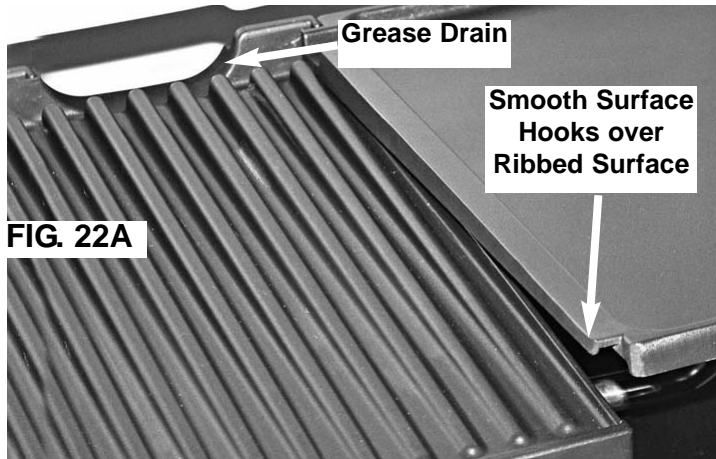

FIG. 22A
1) Place the Ribbed Cooking Surface in the Grill to the left with grease drain over the grease cup. Place the Smooth Cooking surface to the right and hook it over the Ribbed Surface. (FIG. 22A)